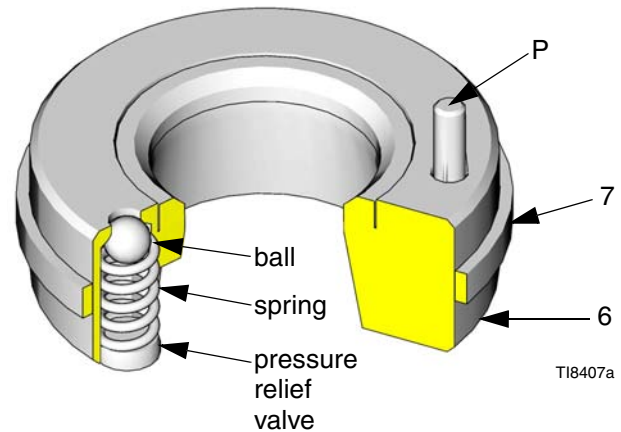

FIG. 5
the positioning of the seat, ensuring that the vent hole (V) is not blocked by part of the housing. See FIG. 5.